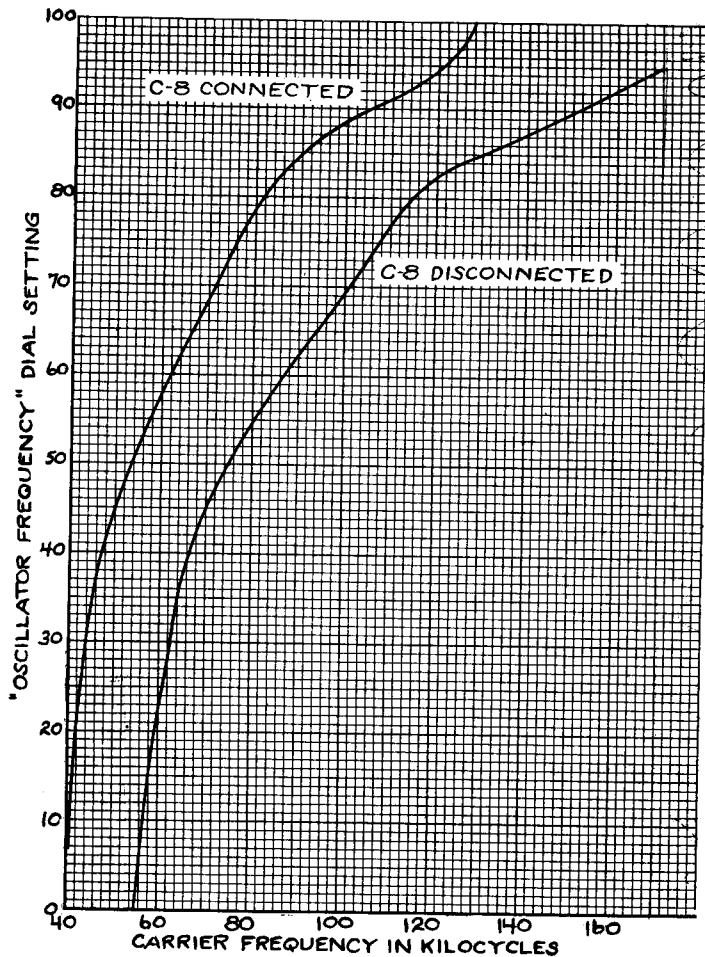
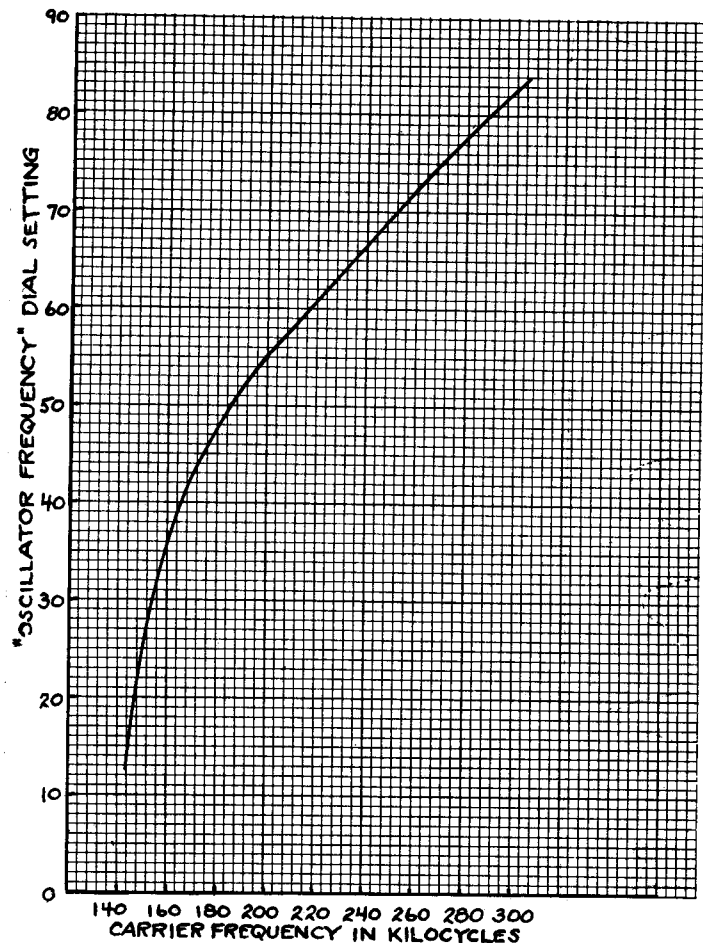

Figure 3
Figure 4
4. Select the carrier frequency desired by referring to curve Fig. 3 or Fig. 4, and adjust the OSCILLATOR FREQUENCY control dial to the setting given by the curve. For frequencies above 80 kilocycles, disconnect capacitor C-8. The frequency setting from the curve is approximate and for installations where no carrier channels have yet been established, will be sufficiently accurate. To get an exact setting, use a precision wavemeter, or use a standard signal generator and an oscilloscope, connecting the signal generator across the horizontal plates and the transmitter output across the vertical plates, to obtain a circular figure. Alternately, use a receiver and zero-beat the transmitter output with a signal generator.